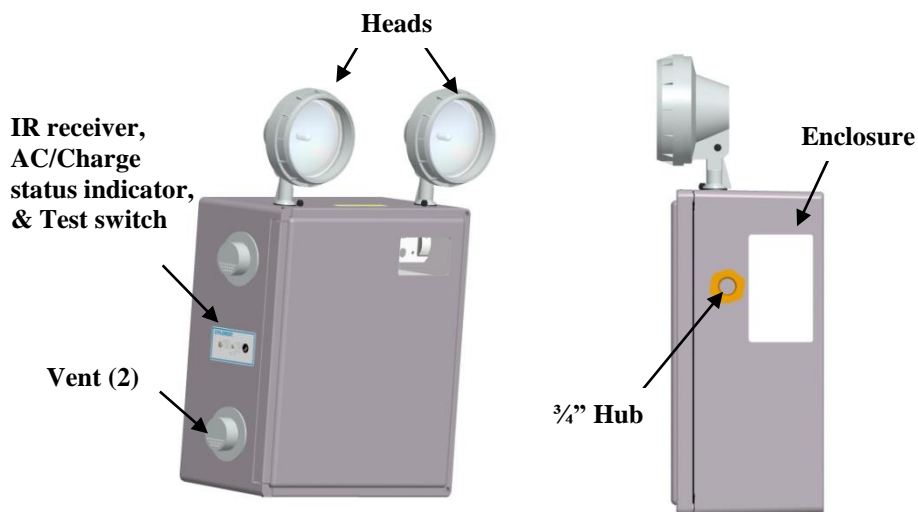

Figure 1
2. Remove cover screws (2) and open cover. (See Figure 1).